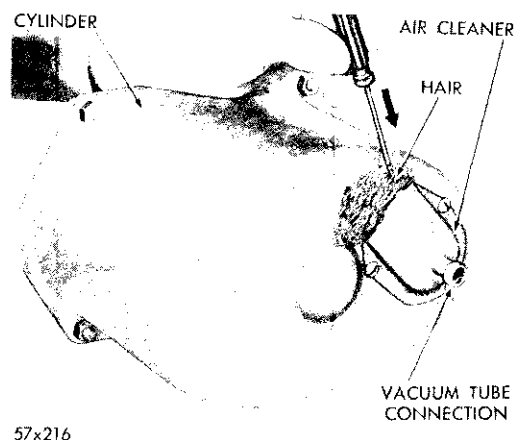

Fig. 69—Installing the Filter Hair
(17) With the scribe marks in alignment, install the attaching screws and tighten securely. Install the balancing pin and diaphragm, and slide the vacuum hose over the tube of the housing.
(18) Slide a new "O" ring gasket over the piston and down on the shoulder of the end plate. Insert the air cleaner tube of the filter housing through hole in the vacuum cylinder. Place air cleaner housing against the cylinder, align holes, install the attaching screws and tighten securely.
(19) Remove Tool C-3578 from the piston assembly, and place in position in front of cylinder. Reach inside and connect the vacuum hose to the cleaner tube. Slide the piston into the cylinder. Install the end plate to the cylinder bolts and nuts. Tighten securely. Using a thin blade screwdriver, or a 6 inch scale ruler, press the air cleaner filter hair into the housing, as shown in Figure 69.